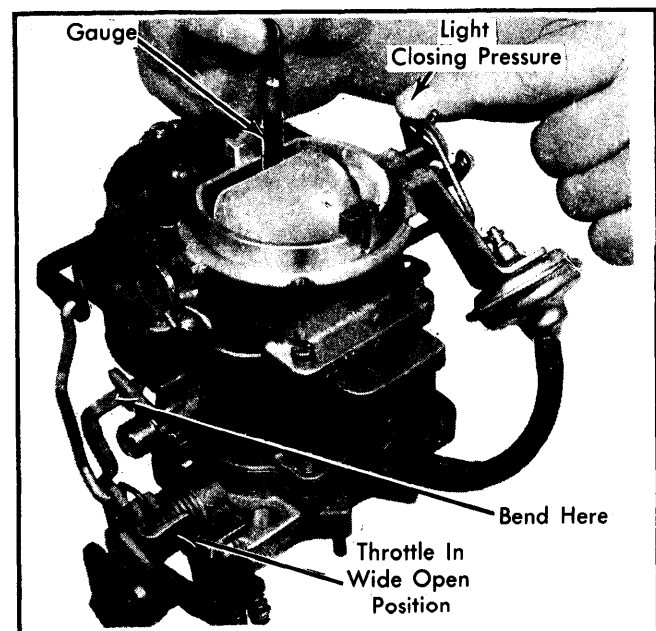

Fig. 7 Adjusting Choke Unloader
- 1) Hold throttle valves wide open. Apply light closing pressure to choke valve lever. See Fig. 7.